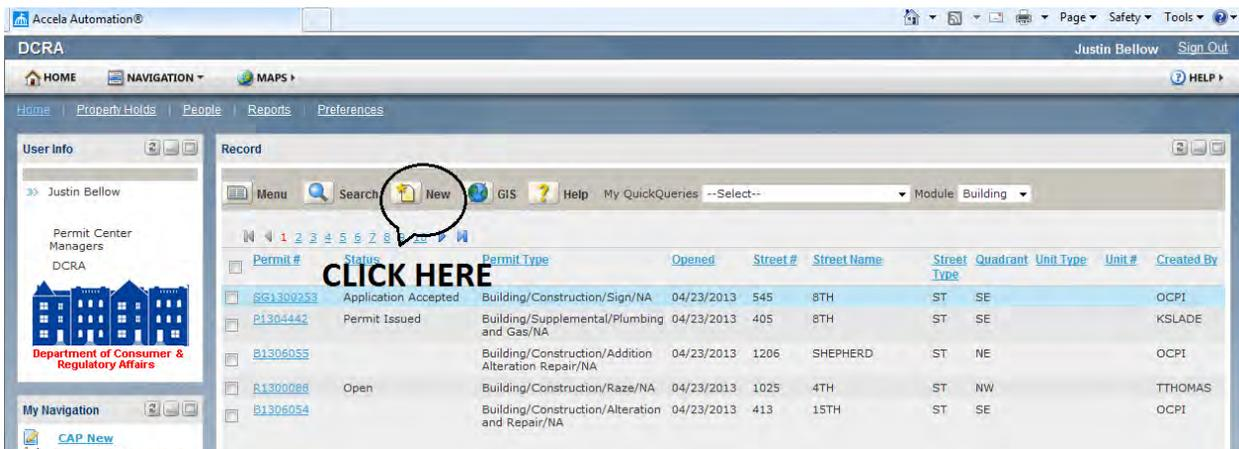

Figure 2.1
4. From the home screen in Accela, locate and click on the “New” button in the grey toolbar at the top of the home screen. (see Figure 2.1)